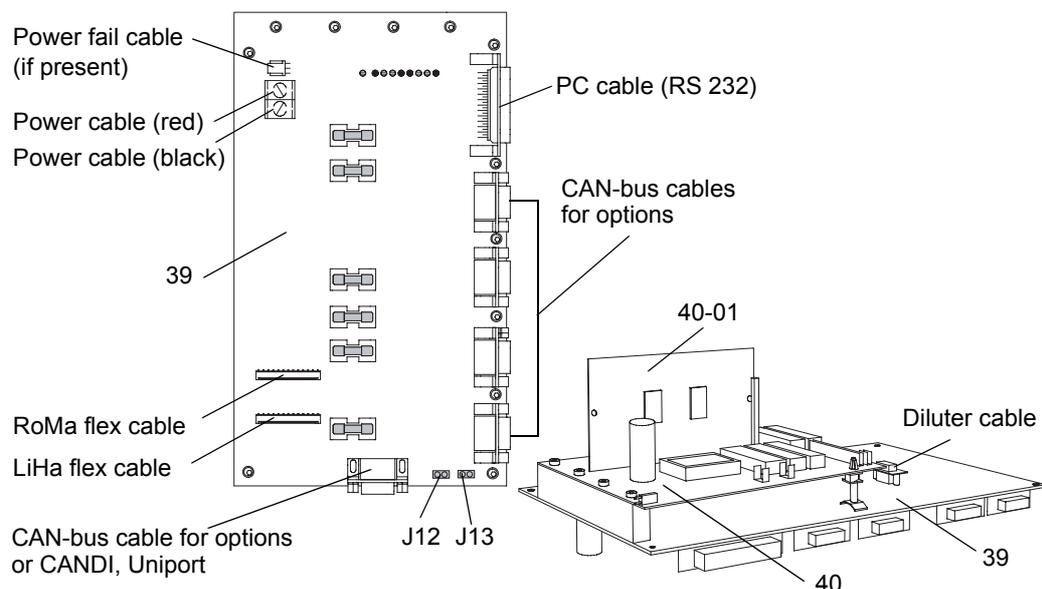
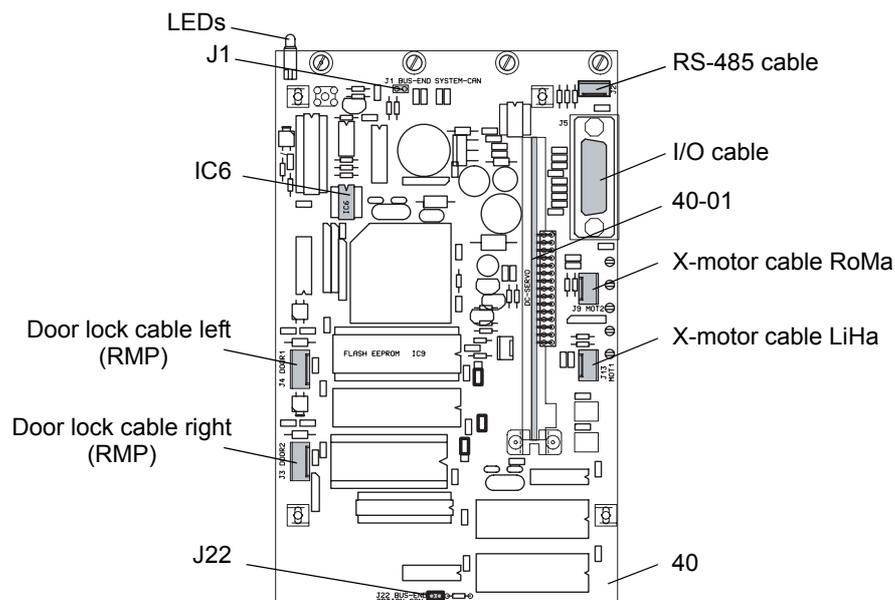

Figure 6-20 Optibo cable connections
Figure 6-22 CU board cable connections
For correct cable connection see Figure 6-20, 'Optibo cable connections' and Figure 6-22, 'CU board cable connections'.
- 5 Use IC release tool to remove the EEPROM (IC6) if you want to install it on the new board (see Figure 6-22, 'CU board cable connections').
Refer to Figure 6-22, 'CU board cable connections' for correct cable connections.